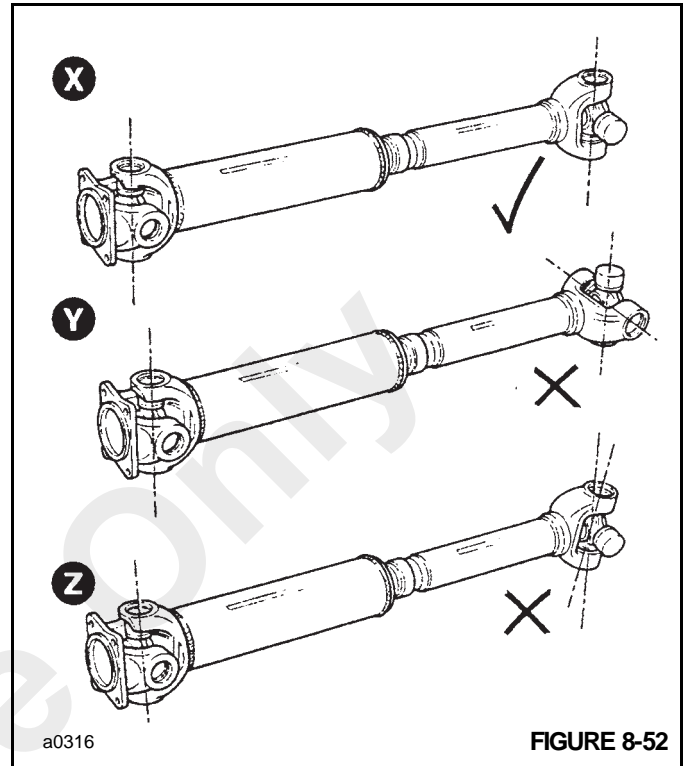

FIGURE 8-52
**NOTE:** The drive shaft must have both ends exactly on the same plane as shown in X Figure 8-52. The yokes must not be at right angles as at Y or at an intermediate angle as at Z.